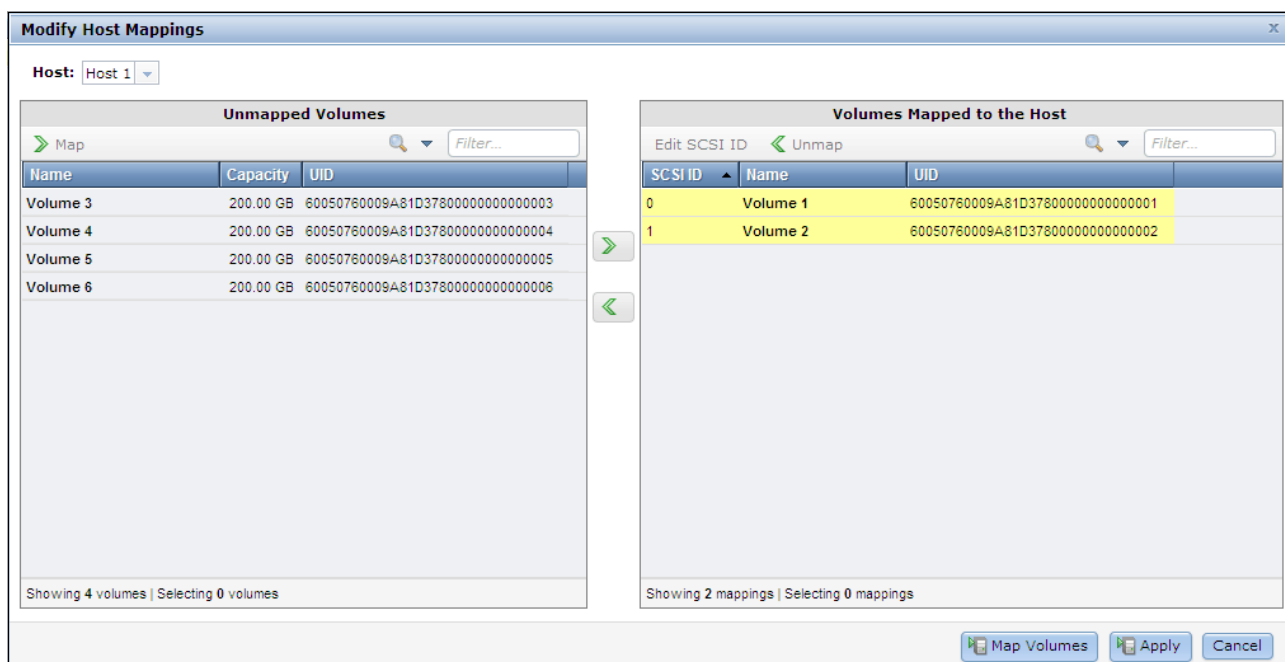

Figure 3-84 Modify host mappings panel
5. After the mapping operations are complete, click **Cancel** to close the Modify Host Mappings panel. **Map Volumes** also can be used to close the panel, but it is best to use this option if only a single mapping operation is required because the apply is performed and then the panel is closed. Figure 3-84 shows the Modify Host Mappings panel.
3. Click **Apply** to complete the unmapping operation. After all of the unmapping operations are complete, click **Cancel** to close the Modify Host Mappings panel. Figure 3-84 shows the Modify Host Mappings panel.